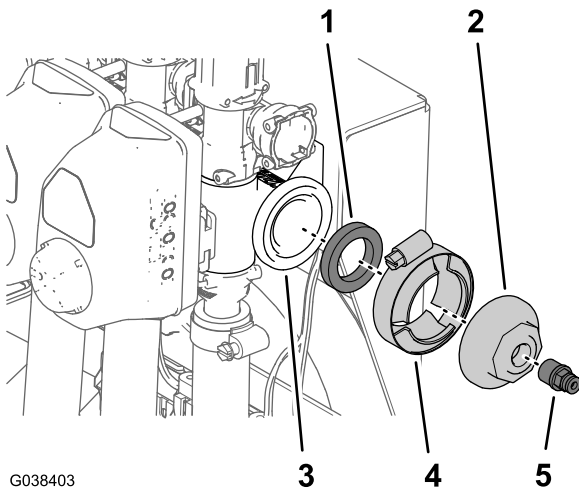

Figure 87
1. Remove the flange clamp that secures the gasket and end cap to the flange of the right spray valve (Figure 87).
2. Remove the tube coupler from the port of the end cap (Figure 87).